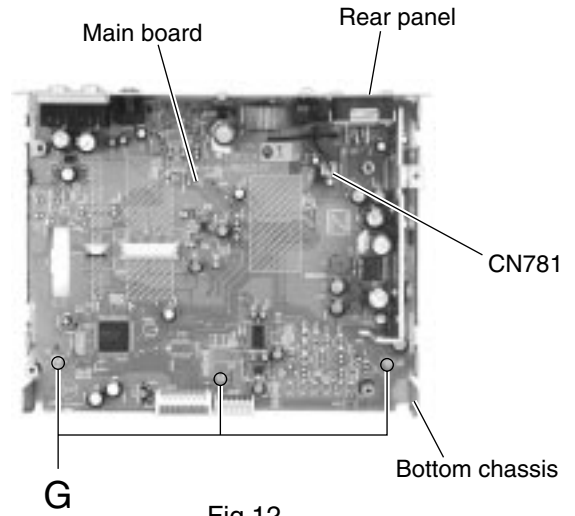

Fig.12
■ Removing the main board (See Fig.12 to 15)